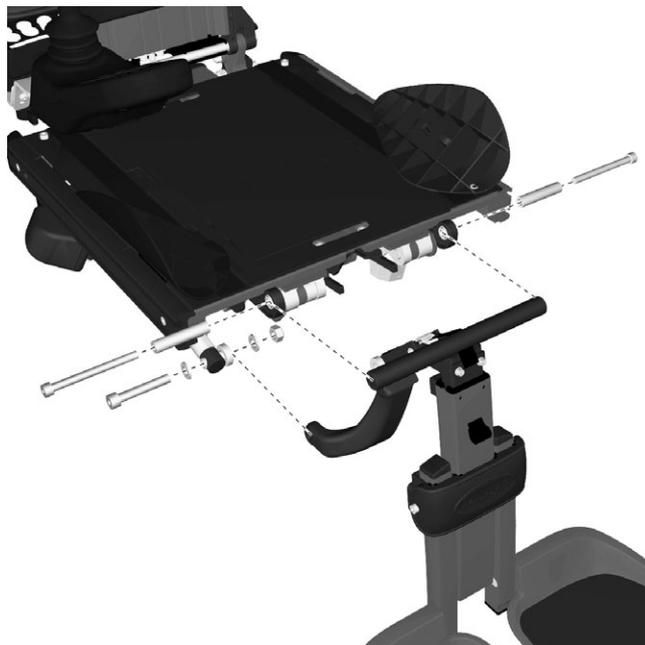

Figure 220. Remove the front ends of the UniTrack rails.
3. Remove the front ends of the UniTrack rails. See fig. 220.